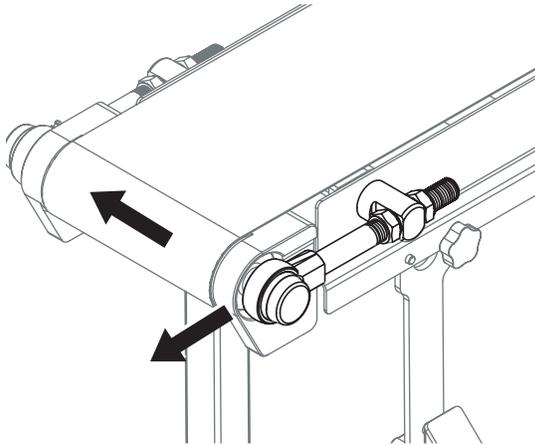

Figure 54
- b. Tighten the nut to increase the length of the idler tail shaft and move the belt away from that side of the conveyor (**Figure 54**).